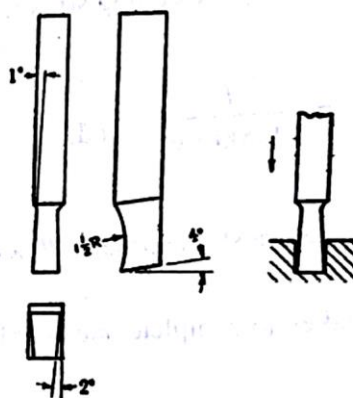

Figure 7.31 A parting or slotting tool
7. A parting or slotting tool. (Fig.7.31.)